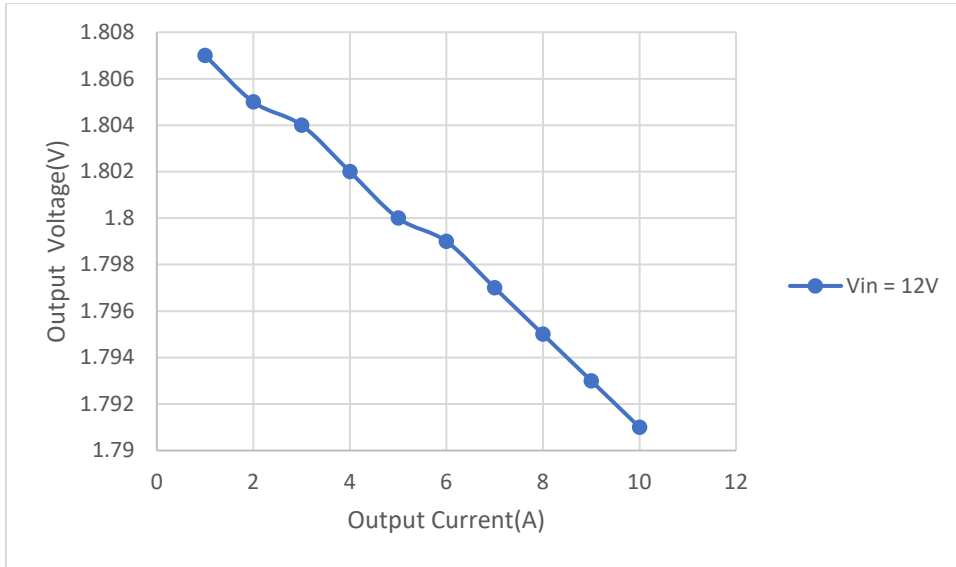

Figure 4. Output voltage versus output current.
- 5) Load Regulation (**Figure 4**)
The regulation accuracy across the full load range is shown in Figure 4 for a 12V input. The results show that the MAXRED1233 is within the target output voltage range across the expected load range.